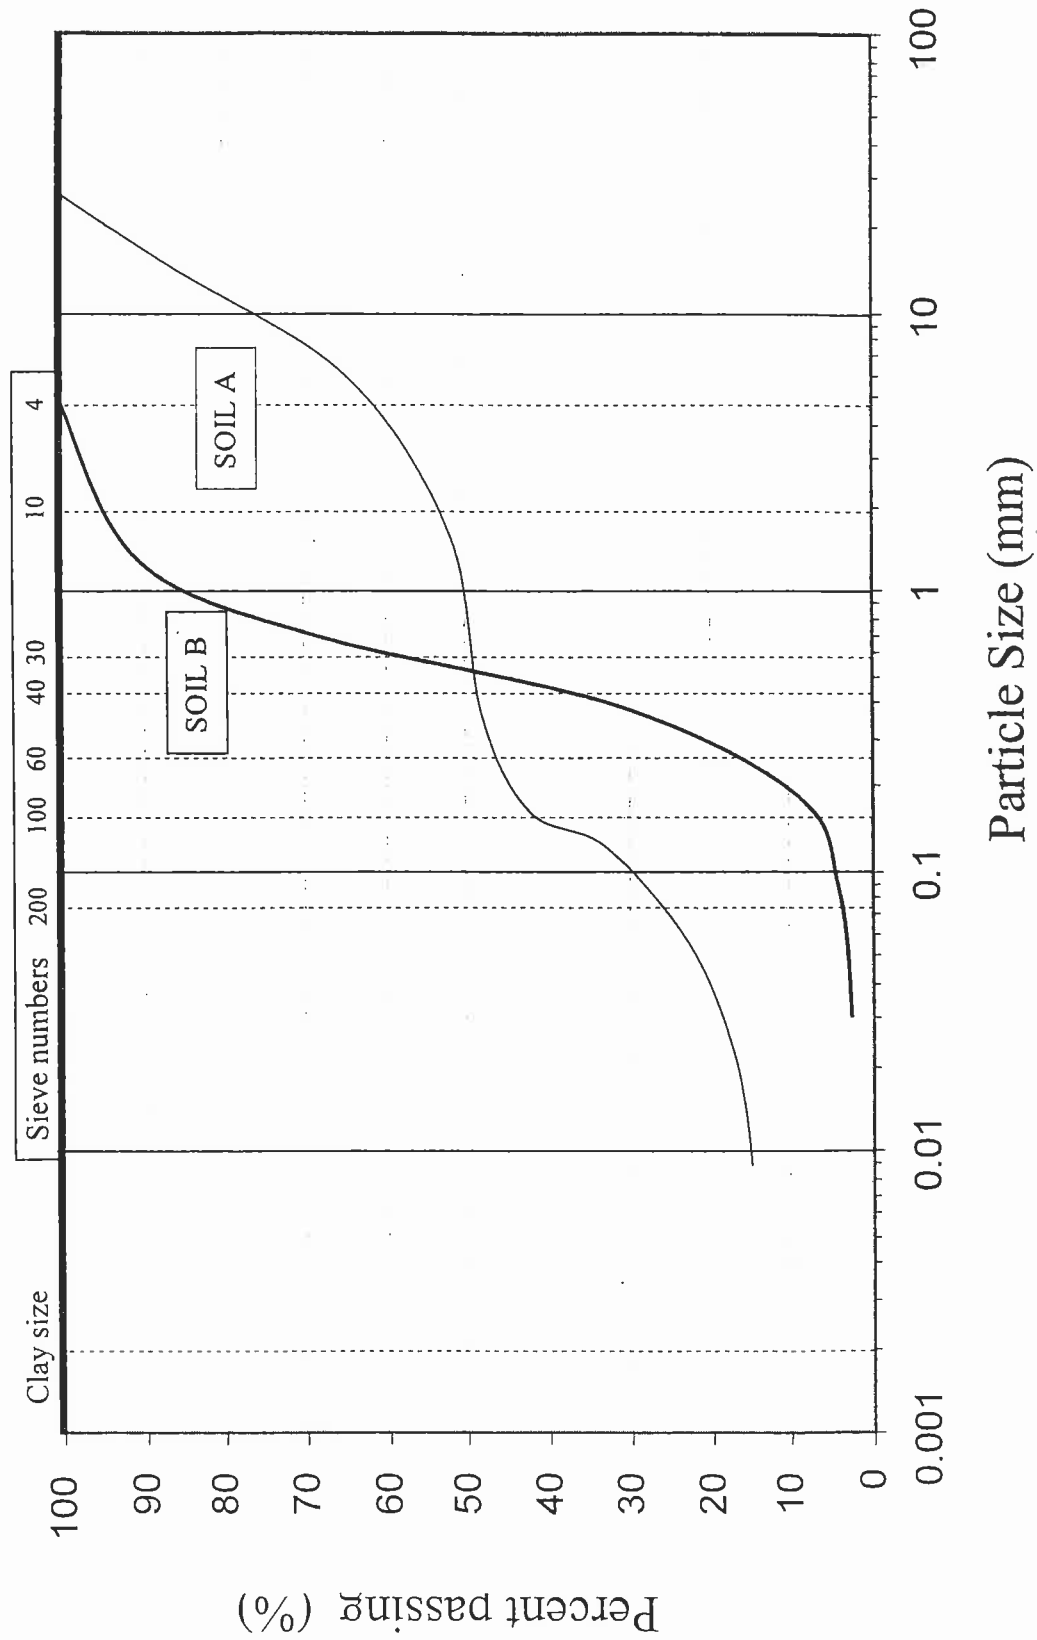

Figure Q.2
2. Classify the soils of figure Q.2 according to the Unified Soil Classification System. The fines of soil A have a liquid limit of  $60\%$  and a plastic limit of  $20\%$ , while those of soil B have a liquid limit of  $30\%$  and a plastic limit of  $20\%$ . In addition to providing the “letter” classification, provide a descriptive name for each soil.